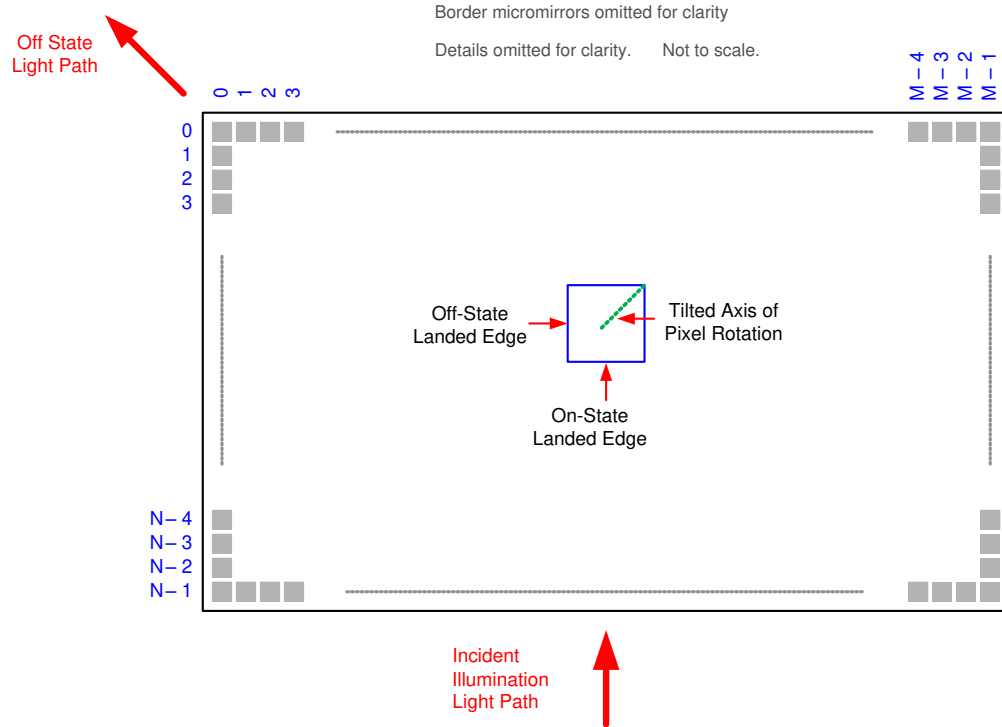

图 6-15. Micromirror Landed Orientation and Tilt
- (1) Measured relative to the plane formed by the overall micromirror array.
- (2) Additional variation exists between the micromirror array and the package datums.
- (3) Represents the landed tilt angle variation relative to the nominal landed tilt angle.
- (4) Represents the variation that can occur between any two individual micromirrors, located on the same device or located on different devices.
- (5) For some applications, it is critical to account for the micromirror tilt angle variation in the overall system optical design. With some system optical designs, the micromirror tilt angle variation within a device may result in perceivable non-uniformities in the light field reflected from the micromirror array. With some system optical designs, the micromirror tilt angle variation between devices may result in colorimetry variations, system efficiency variations or system contrast variations.
- (6) When the micromirror array is landed (not parked), the tilt direction of each individual micromirror is dictated by the binary contents of the CMOS memory cell associated with each individual micromirror. A binary value of 1 results in a micromirror landing in the ON State direction. A binary value of 0 results in a micromirror landing in the OFF State direction. See Figure 6-15.
- (7) Micromirror tilt direction is measured as in a typical polar coordinate system: Measuring counter-clockwise from a 0° degree reference which is aligned with the +X Cartesian axis.
- (8) The time required for a micromirror to nominally transition from one landed state to the opposite landed state.
- (9) The minimum time between successive transitions of a micromirror.
- (10) Conditions of Acceptance: All DMD image quality returns will be evaluated using the following projected image test conditions: